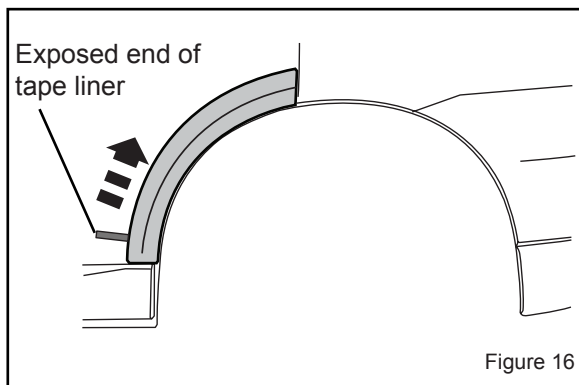

Figure 16
- Grasp exposed end of tape liner and pull to remove. Figure 16